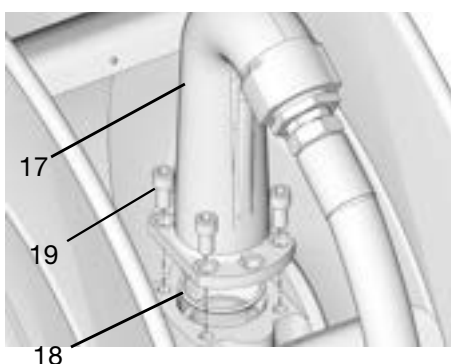

FIG. 24
1. Reverse direction of outlet (17).
- a. Remove bolts (19) and outlet (17) from reel (FIG. 24).